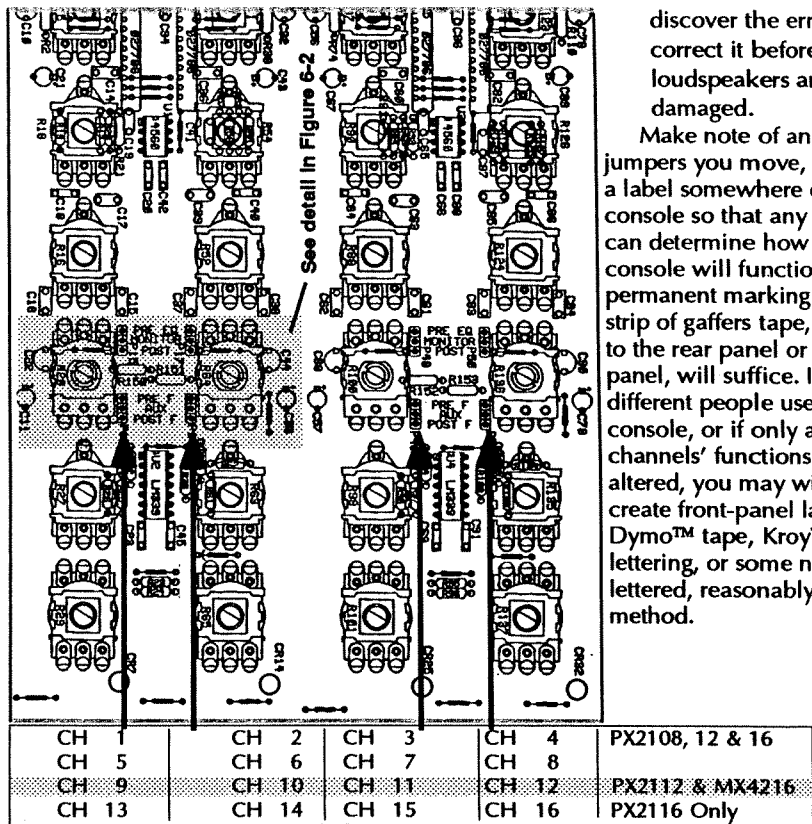

Figure 6-1. Location of Headers & Jumpers for Pre-Post Functions.
16. Refer to Figure 6-1. Locate the 3-pin headers which are adjacent to the EFF/REV-AUX pot [3] on each channel. Headers P16, P18, P49 and P51 are labeled PRE F/AUX/ POST F, and determine whether the AUX send control [3] is post fader (the factory preset) or pre fader. P15, P17, P48 and P50 are labeled PRE EQ/MONITOR/POST and determine whether the MONITOR send control [4] is post EQ (the factory preset) or pre EQ.